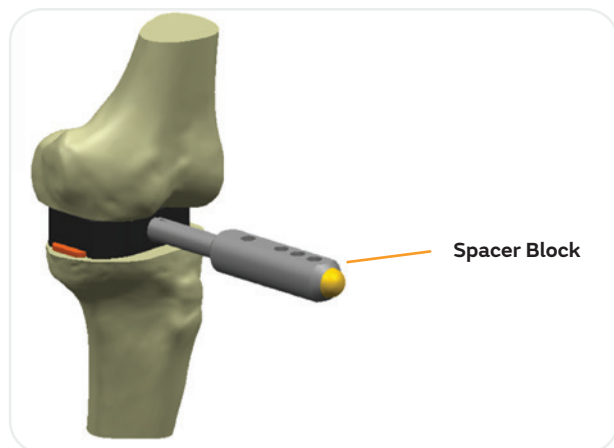

Figure 31
2. Insert the Flexion/Extension block into the extension gap. Evaluate alignment, balance, and extension space (**Figure 31**)